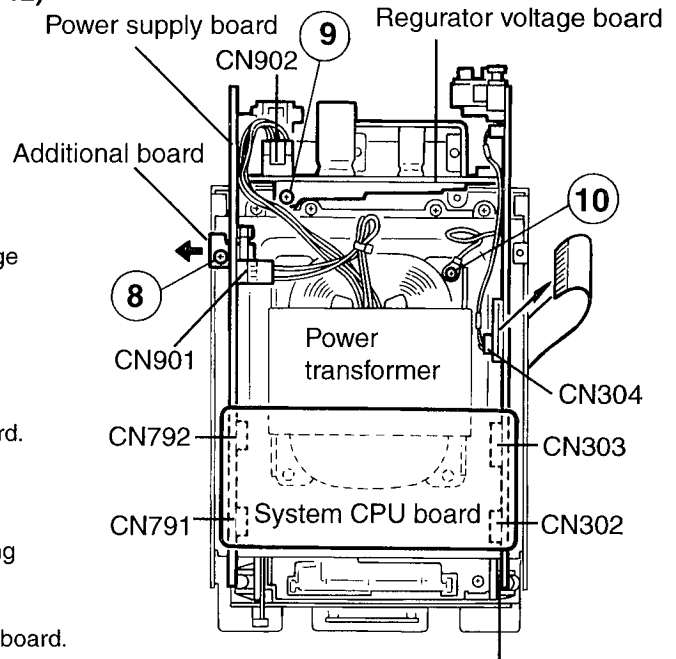

Fig. 10 Amplifier board
Power supply and Amplifier board(See Figs. 10~12)
1. From the connectors CN791, CN792, CN302, CN303 on the power supply and amplifier board, disconnect from the system CPU board. (See Fig. 10)
2. Remove the screw ⑧ retaining the additional board toward the arrow direction. (See Figs. 10, 11)
3. From the connector CN901 on the power supply board, outgoing from the 2pin connector (White, Blue) on the power transformer. (See Figs. 10, 11)
5. From the connector CN902 on the power supply board, outgoing from the 4pin connector (Yellow, Red) on the power transformer. (See Figs. 10, 12)
6. Remove the screw ⑨ retaining the regurator voltage board. (See Fig. 10)
7. From the connector CN304 on the amplifier board, disconnect the card wire. (See Fig. 10)
8. Remove the screw ⑩ retaining the earth terminal outgoing from amplifier board. (See Fig. 10)